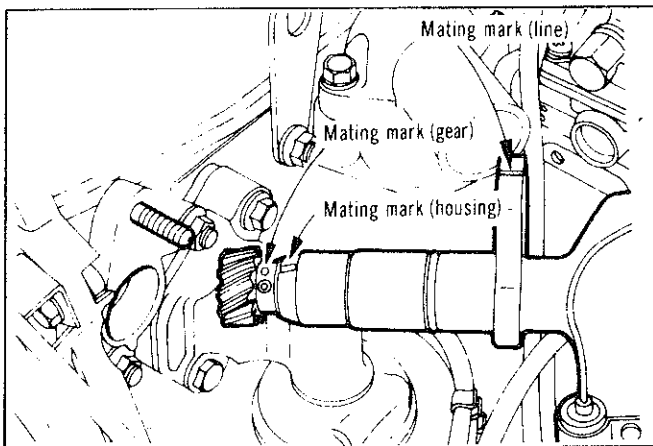

Fig. 7—Distributor alignment marks (belt drive camshaft engine)
- (1) Ensure the crankshaft is positioned at T.D.C. with No. 1 piston on compression stroke.
- (2) Align the mating mark (line) of the distributor housing with the mating mark (dot) of the distributor gear.
- (3) Insert the distributor into the cylinder head with the mating marks uppermost (Fig. 7) and install retaining nuts.
- (4) Adjust breaker point gap if necessary.